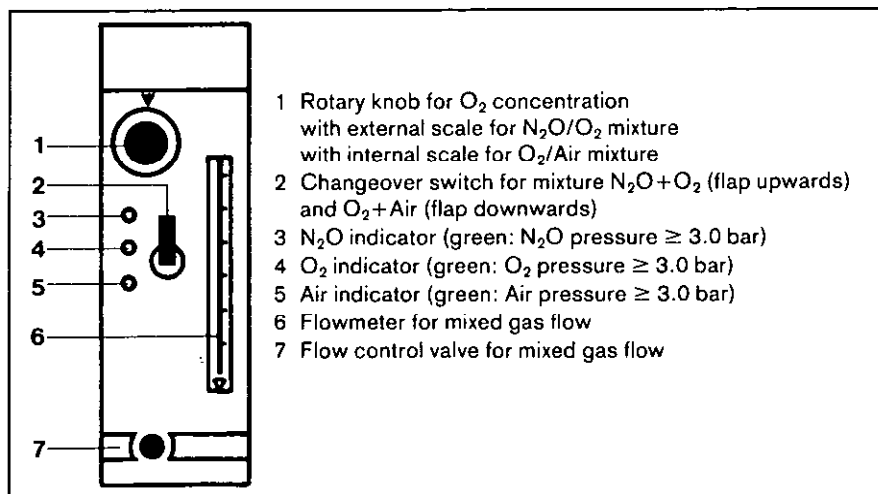

Fig. 21 Gas blender
11.3.1 Checking N₂O cut-off and gas deficiency signals (Fig. 21)